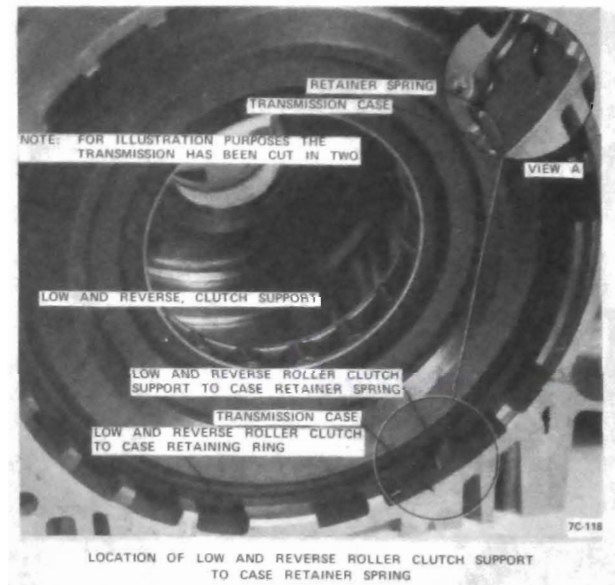

Figure 7C-145
3. Install low and reverse clutch support assembly pushing firmly until support assembly is seated past top of low and reverse clutch support retainer spring and retaining ring can be installed. See Figure 7C-146.